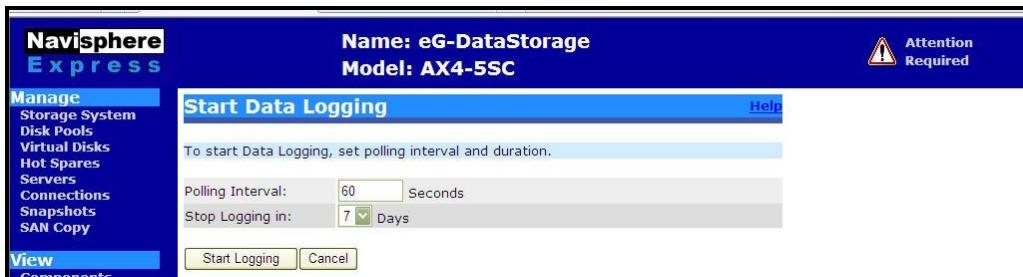

Figure 1.9: Configuring data logging
8. You can configure how frequently data logging should occur and also indicate when it should stop using the **Polling interval** and **Stop Logging** in controls (respectively) in Figure 1.9 that appears. Then, click the **Start Logging** button in Figure 1.9 to begin data logging.